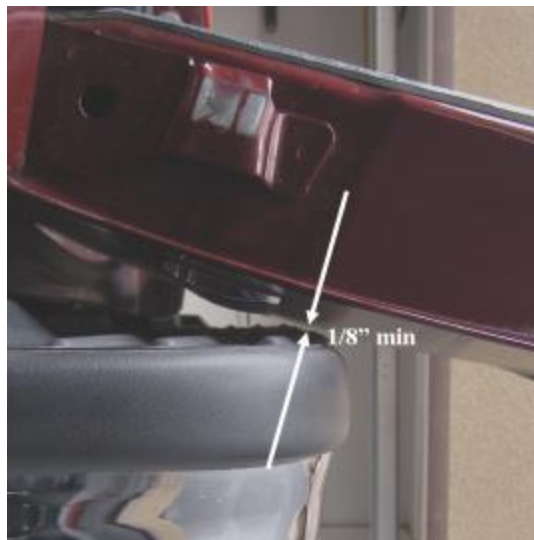

Figure 4
11. Carefully lower the tailgate carefully to make sure there is adequate clearance (minimum 1/8") between the tailgate and the bumper (**Figure 4**).